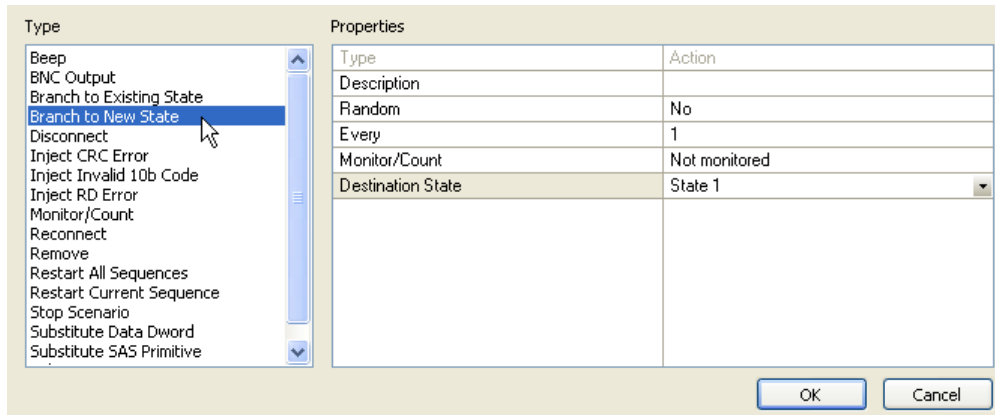

Figure 5.40 Example 7: Action Properties Dialog Box
- Step 8** The Action Properties dialog box appears (Figure 5.40). For the action, select **Branch to a New State**.